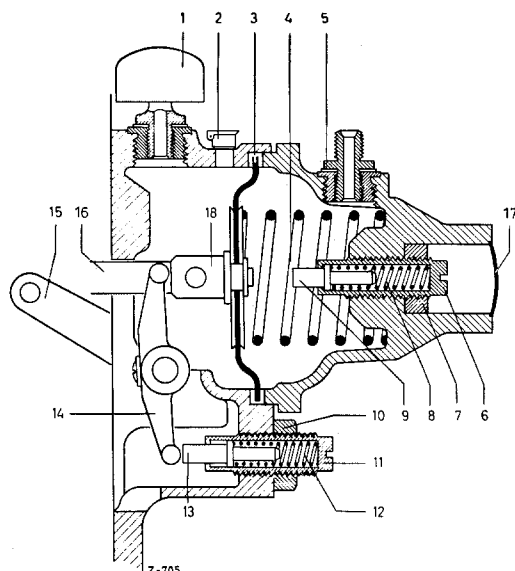

Figure 07-4/10
Furthermore, during starting by operating the starting switch the full load stop bolt (13) is pressed out of its normal position for a certain additional increase of discharge by way of the adjusting lever (15) and the double lever (14). By this, the highest possible injection rate is given to the engine during the starting (Figure 07-4/10).
When releasing the starting switch the spring (12) presses the adjusting lever (15) immediately back into its normal full load position by way of the stop bolt (13) and the adjusting lever (15) (Figure 07-4/11).